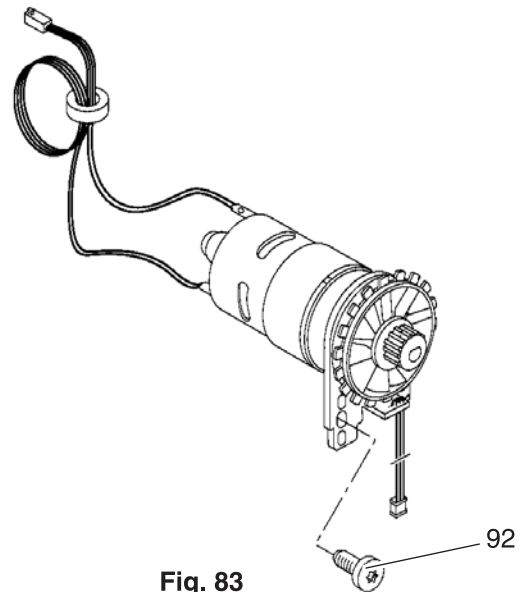

Fig. 83
- Remove both of the motor's power cables (fig. 83).
- Attach both power cables, paying attention to the plus signs (fig. 83).